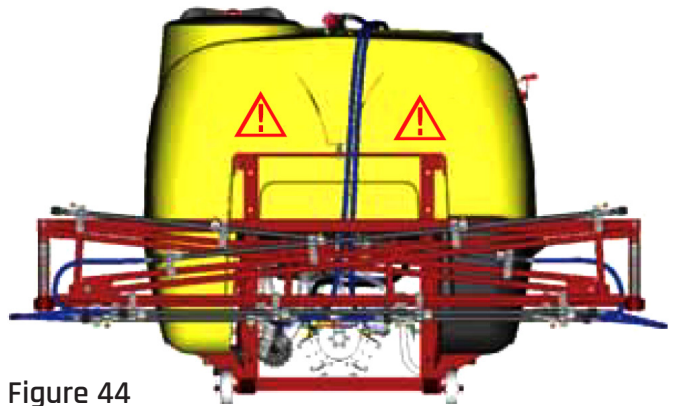

Figure 44
3. Also, when driving on the road, in accordance with the traffic and safety rules there is a safety label on hanging type machine. (figure 44)